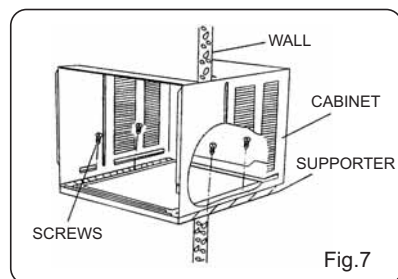

Fig.7
3. When need to drain off water, in tall the drain plug on the Chassis board. Then fix the cabinet on the supporter (provide for yourself or contact the dealer)(see Fig.7).